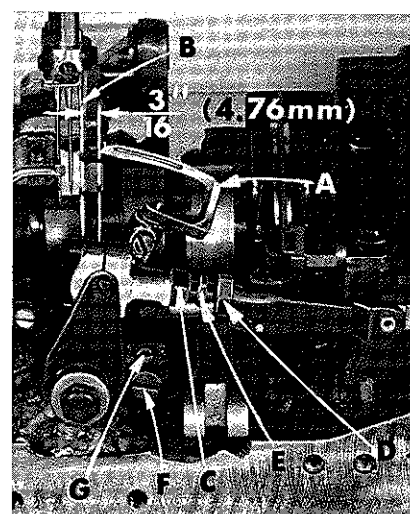

Fig. 8
Insert a new needle in the right needle seat, type and size as specified. If the looper gauge is $\frac{3}{16}$ inch (4.76 mm), for example, set the looper (A, Fig. 8) so the distance from the center of the right needle (B) to the point of the looper is $\frac{3}{16}$ inch (4.76 mm) when the looper is at its farthest position to the right. Looper gauge No. 21225- $\frac{3}{16}$ can be used advantageously in making this adjustment. Refer to chart for looper gauge setting and looper gauge number applicable to machine Style. If adjustment is required, loosen nut (C) (it has a lefthand thread) and nut (D) on connecting rod (E), turn the connecting rod forward or backward to obtain specified dimension. Retighten both nuts, first nut (D) and then nut (C). Make sure the left ball joint is in vertical position and does not bind after adjustment.
The looper is set correctly in line-of-feed, if, as it moves to the left, behind the needle, its point brushes, but does not pick at the rear of the needle. If adjustment is necessary, loosen lock screw (F, Fig. 8) and turn stop screw (G) as required. Turning stop screw clockwise sets the looper to the rear and turning it counterclockwise acts the reverse. Holding looper to the front while making this adjustment may prove helpful. Tighten lock screw when setting is obtained and recheck the adjustment.